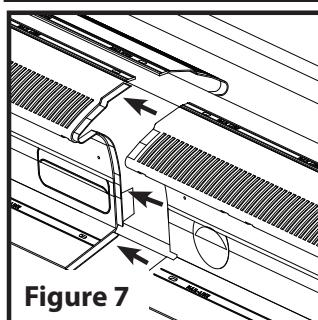
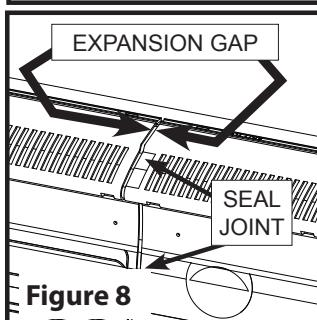

Figure 7
Figure 8
4. The TRV-4 design includes alignment tabs on each end (one male and one female). (See Figure 7) Leave $1\frac{1}{8}$ " gap between each vent to allow for expansion in hot weather. (See Figure 8) Apply sealant on each butt joint to ensure the joint is sealed. For ease of installation and proper alignment it is recommended to start and complete one side of the ridge board and begin on the other side going the opposite direction. This will ensure the entire length of TRV-4 is as straight as possible and will prevent leaks.